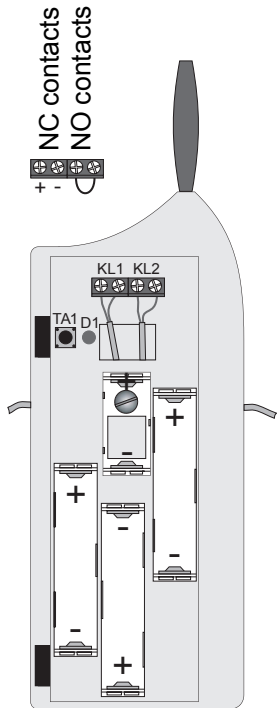

Figure 5
This refers only to NC contacts that must use the 'KL2' connection, see page 12, figure 5.
- NO contacts on the door/window detector may also be used to complete the monitoring, (use connection 'KL1', see page 12, figure 5).
In the door/window detector itself, the cables are fed under the battery compartment for the LR44 button cells to the screw terminal strips (otherwise the LR44 button cells cannot be inserted properly), see figure 5.
The screw is also indicated in figure 5 to the right.
If the glass break detector has a polarity specification, attach the 'plus' contact to the left KL1 screw terminal (see figure 5).